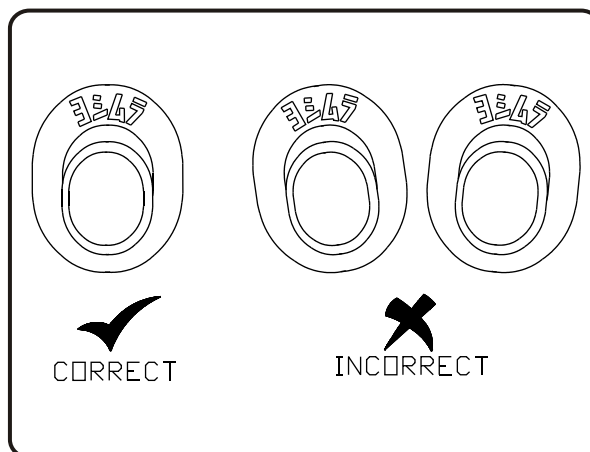

Fig. 3
- 7 Standing at the back of the motorcycle, check the orientation of the muffler (the exhaust tip should be pointing down) and check for clearance between swing arm, rear brake and muffler. (See Fig. 3)